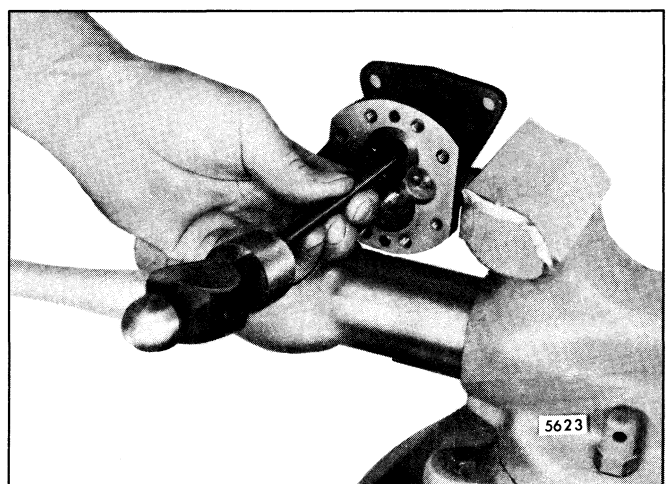

Fig. 7 - Removing Oil Seals from Fuel Pump Body using Tool J 1508-13
7. If the oil seals need replacing, remove them with oil seal remover J 1508—13 (Fig. 7). Clamp the pump body in a vise and tap the end of the tool with a hammer to remove the inner and outer seals. Observe the position of the oil seal lips before removing the seals to permit installation of new seals in the same position.